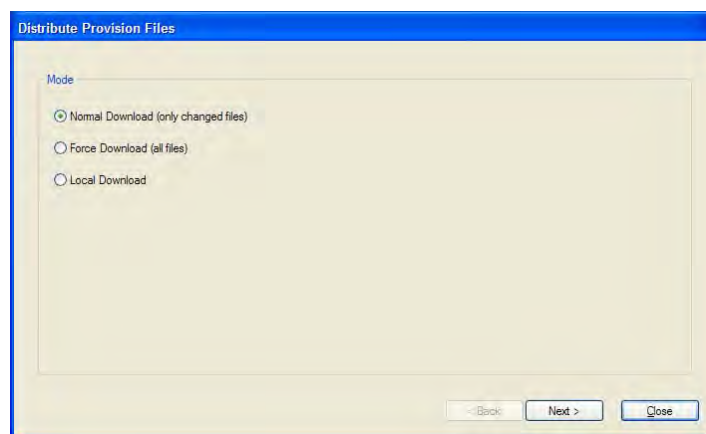

Figure 4-16. Distribute Provision Files – Mode Dialog Box
1. Click **Distribute**. The **Distribute Provision Files – Mode** dialog box appears (Figure 4-16).